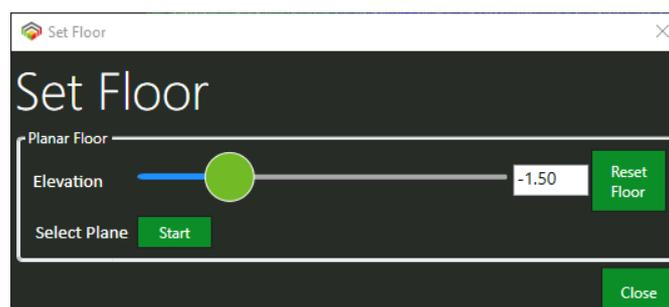

Figure 68. Set Floor height dialog.
2. Select -> **Set Planar Floor**, to open the *Set Floor* dialog (Figure 68).
2. Select -> Set **Planar Floor**, to open the *Set Floor* dialog (Figure 68).